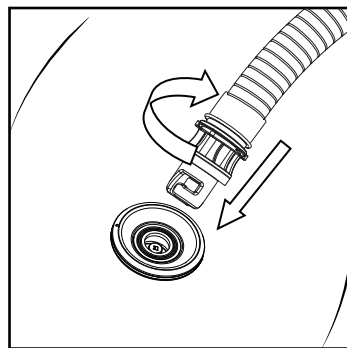

Figure 2
- Attach the other end of the hose to the air tap of the inflatable item (step 2, Figure 2), and twist clockwise to secure. Then insert the inflation valve into the air bag and twist clockwise to fix it (step 2, Figure 2).